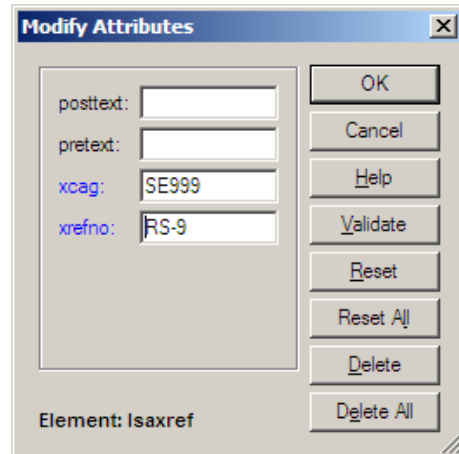

Figure 5. Modify Attributes Window.
- Choose the **Modify Attributes** button (  ) on the Arbortext Editor Toolbar. The Modify Attributes Window is displayed as shown in Figure 5.